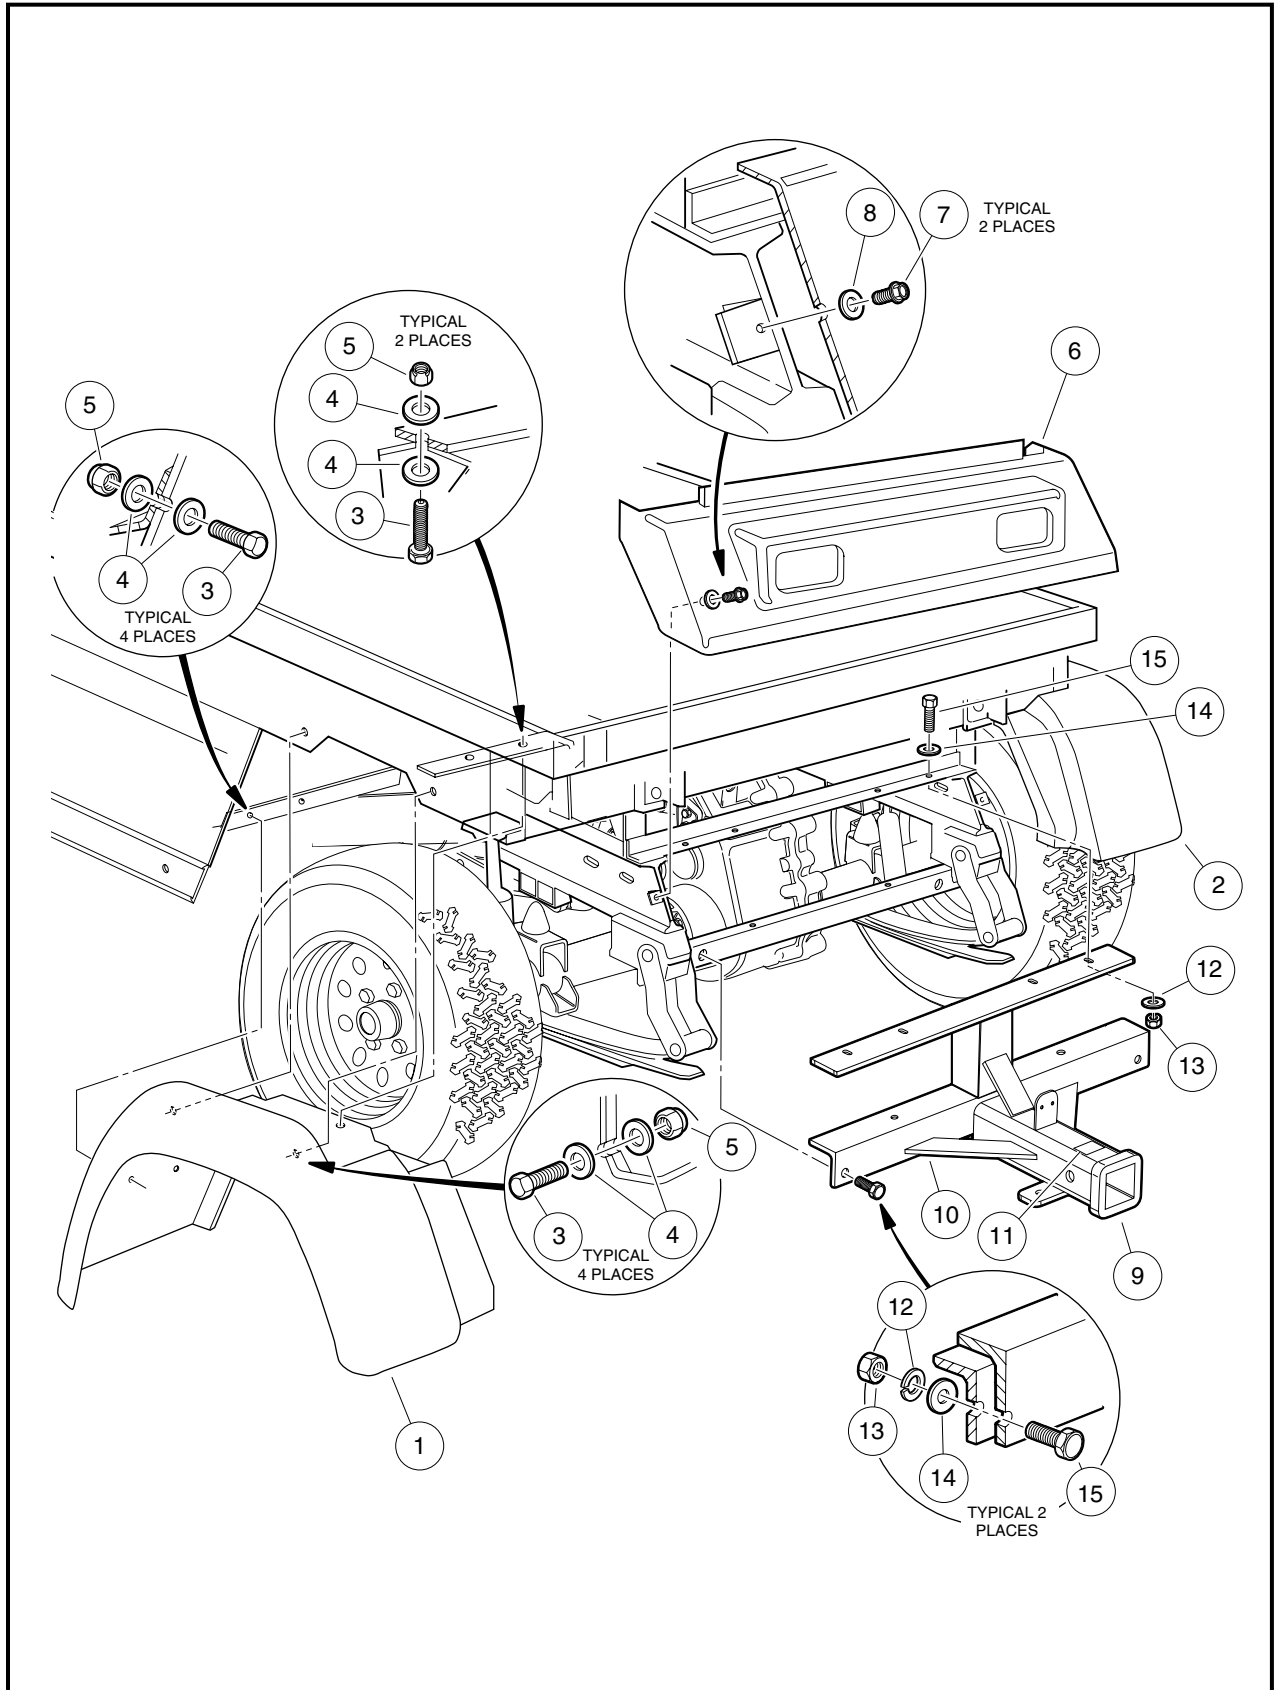

Figure 4-8 Carryall 472 Rear Fender, Tailskirt, and Receiver Hitch
- 1.2. Remove two 5/16-18 hex nuts (13), lock washers (12), flat washers (14) and 5/16-18 x 1-inch bolts (15) from the top of hitch (10) brace (**Figure 4-8, Page 4-15**).
- 1.1. Reverse the receiver hitch removal process and tighten bolts to 15 ft-lb (20.3 N·m) (**Figure 4-8, Page 4-15**).